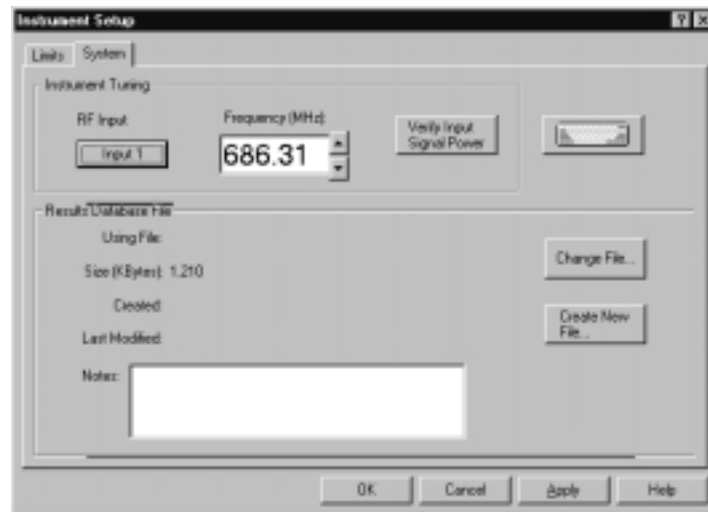

Figure 2–8: System setup
5. Click on the System tab to display the System page (shown in Figure 2–8).